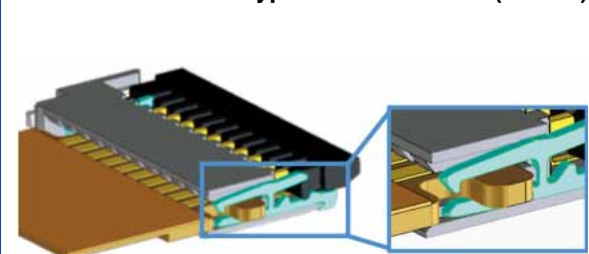

Fig.3
- * In horizontal direction : Approximately 2.5N higher than FH34SRJ (Fig.3)